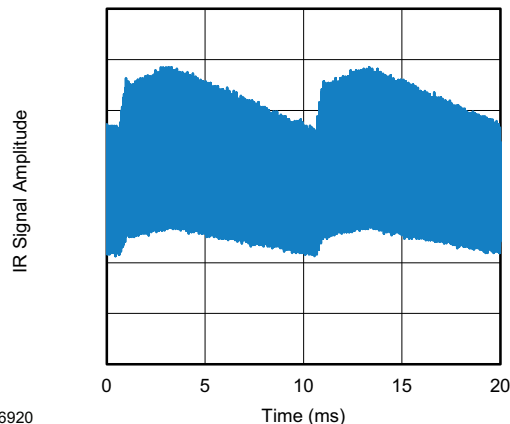
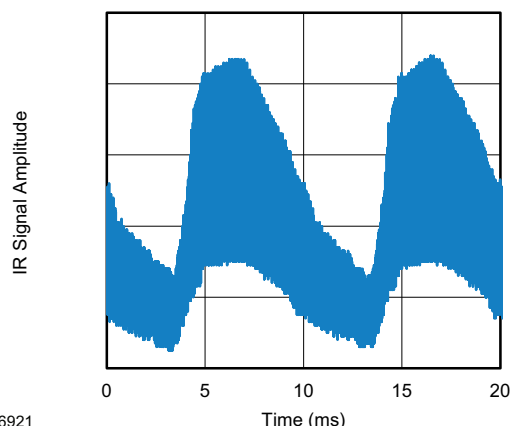

Fig. 13 - IR Signal from Fluorescent Lamp With Low Modulation
Fig. 14 - IR Signal from Fluorescent Lamp With High Modulation
- Strongly or weakly modulated patterns from fluorescent lamps with electronic ballasts (see Fig. 13 or Fig. 14)
| Suppression of interference from fluorescent lamps | Fig. 13 | Fig. 13 and Fig. 14 |